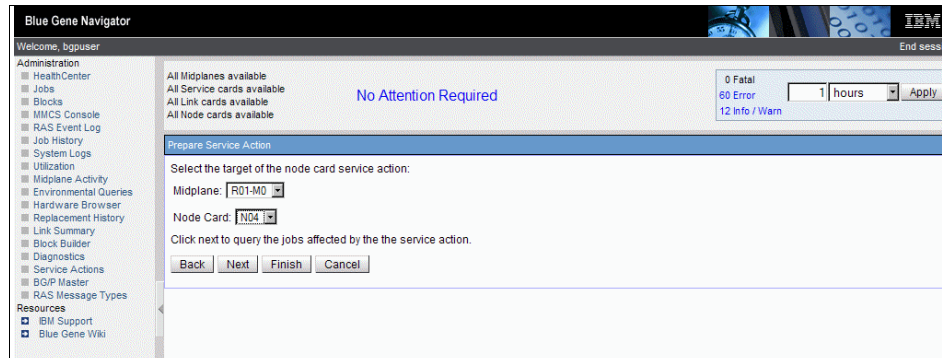

Figure 9-4 Select the target
- The next page that opens allows you to select a target location for the Service Action (Figure 9-4). Recall that starting a Service Action on hardware that has a block booted or job running causes that block to be freed or job to be terminated. Click **Next** to verify that the hardware that you have selected is not in conflict with any running jobs.